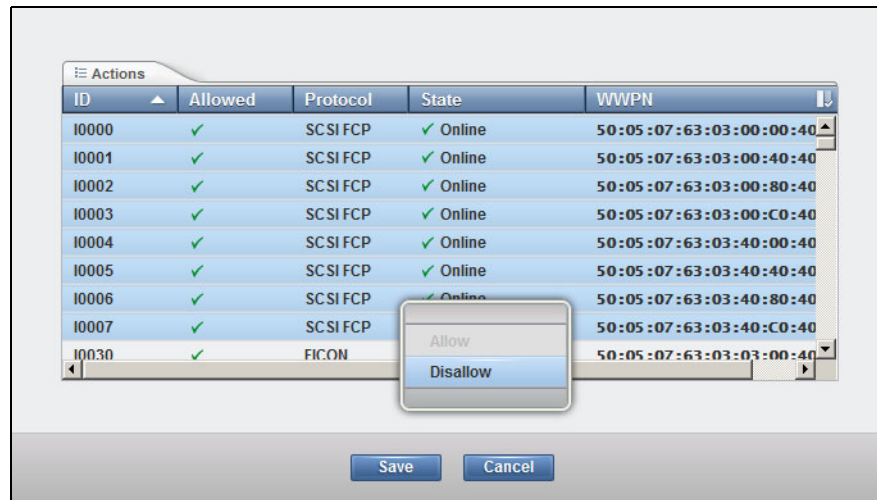

Figure 11-60 Modify I/O Port Mask: Disallow ports
2. A list of the DS8880 I/O ports is displayed. Select one or more ports to disallow. You can use the **Ctrl** or **Shift** key for multiple selections.) Click **Save**. See Figure 11-60.